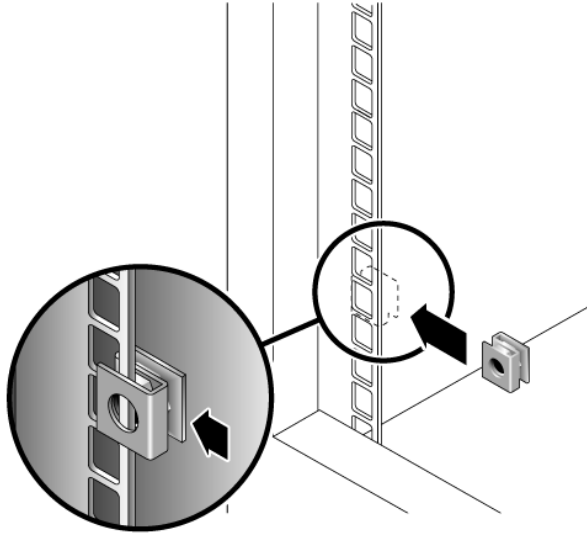

FIGURE 2-27 Inserting a Cage Nut on the Cabinet Rail at the Back of the Cabinet
4. On the corresponding cabinet rail at the back of the cabinet, snap one cage nut over the lowest hole in the middle mounting unit of the 3RU cabinet slot in which you will mount the tray (FIGURE 2-27).